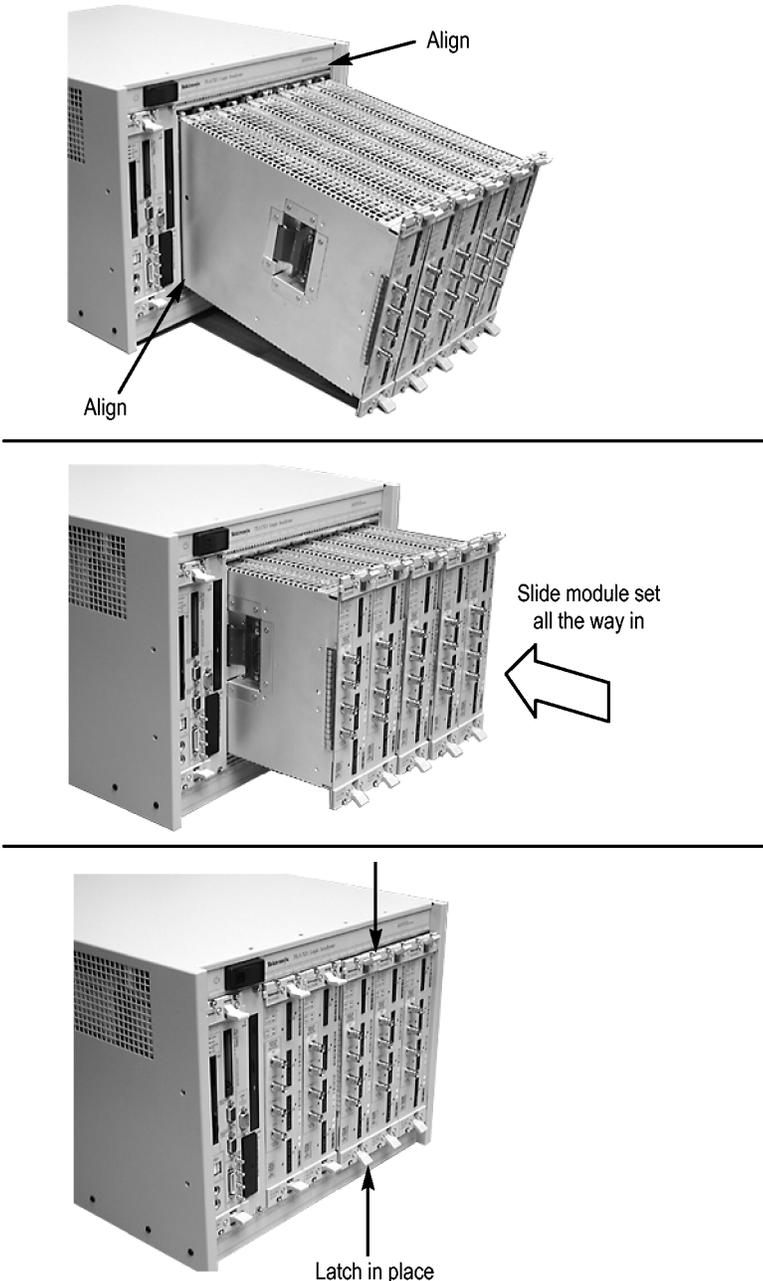

Figure 51: Installing the merged module set in the mainframe
10. Align the tops and bottoms of the modules with the slots in the mainframe. (See Figure 51 on page 61.) You may need the help of another individual if your merged module set contains more than two modules.